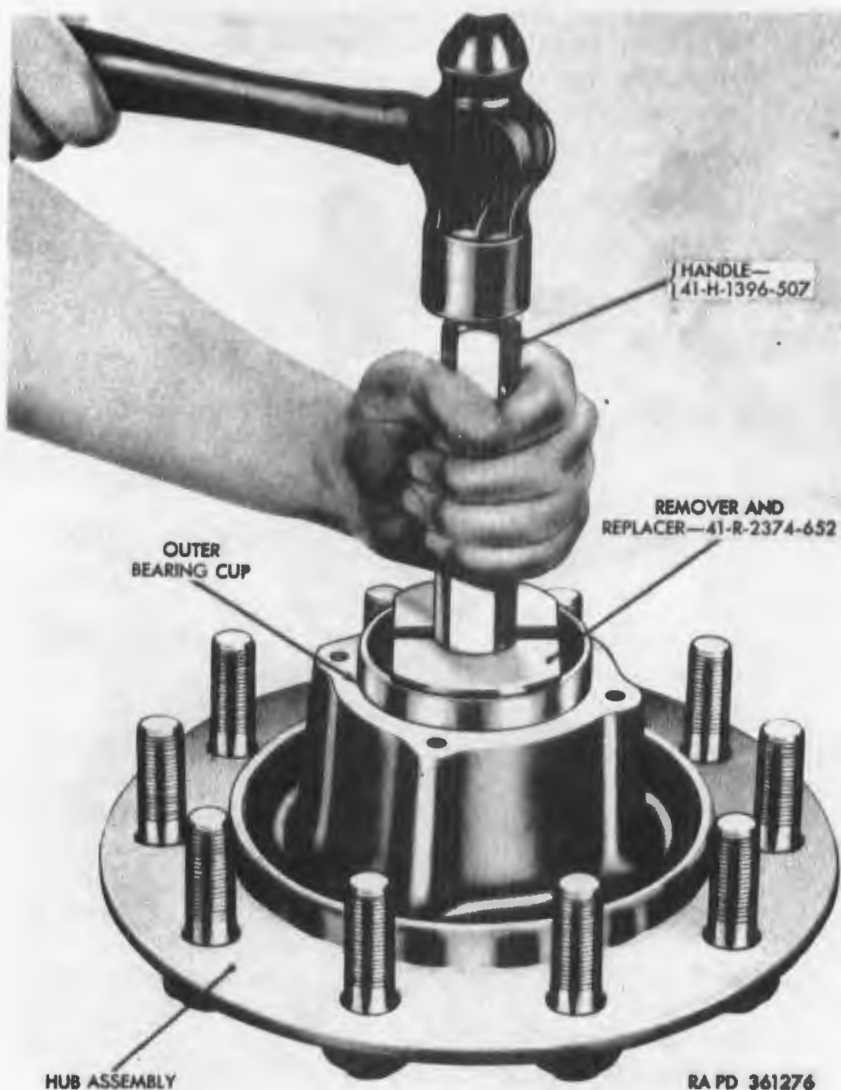

Figure 223. Installing outer bearing cup in hub assembly.
- (1) Install outer and inner bearing cups (L-1 and L-4) in hub (L-2) with the narrow lip of each cup facing outward. Use remover and replacer 41-R-2374-630 with handle 41-H-1396-507 for installing inner bearing cup (fig. 222) and remover and replacer 41-R-2374-652 with handle 41-H-1396-507 for installing outer bearing cup (fig. 223). If any of the $\frac{3}{4} \times 3\frac{1}{8}$ fluted studs (L-3) were removed at disassembly, align serrations within hub with